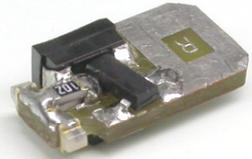

figure 1: Steam locomotive lighting yellow or white
2. The product can be seen in figure 1. These instructions are part of the product. Please retain them well. Do not worry about the yellow component having a white, transparent LED, and the white component having an orange LED. Even if letting the white component shine, it appears a bit odd. Only inside the body and behind the light conductor, the white light appears as supposed with a cast of yellow.